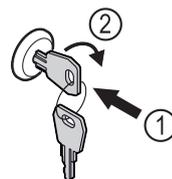

Fig. 175 Example illustration
- ▶ Insert key Fig. 175 (1).
- ▶ Turn key clockwise by 90° Fig. 175 (2).